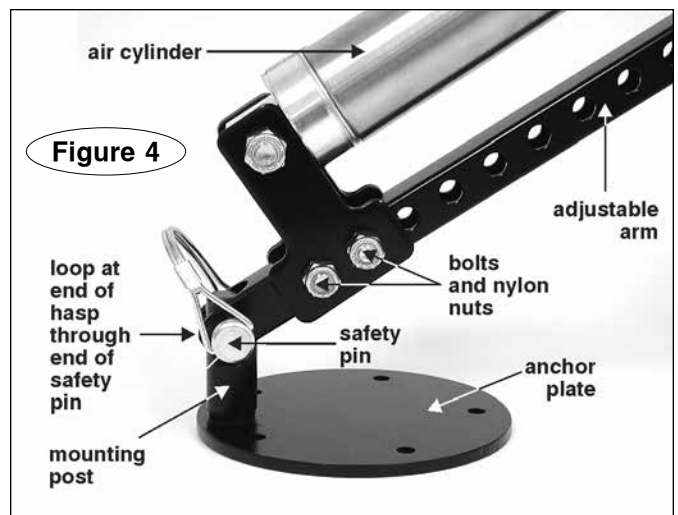

Figure 4
BrakeMaster is shipped with the air cylinder at the shortest position. If necessary, lengthen the reach of the air cylinder, to position the anchor plate at the point you have chosen – remove the two bolts and nylon nuts (Figure 4) attaching the cylinder to the adjustable arm (Figure 4). Slide the air cylinder (Figure 4) up the adjustable arm until the anchor plate is over the point you have chosen. Replace the two bolts and nylon nuts.
8. Next, if necessary, move the air cylinder to the left or the right, until the mounting post (Figure 4) is directly in line with the brake pedal.
B. When it is connected, the air cylinder must be pulled back toward the anchor plate in order to insert the safety pin (Figure 4) through the mounting post.